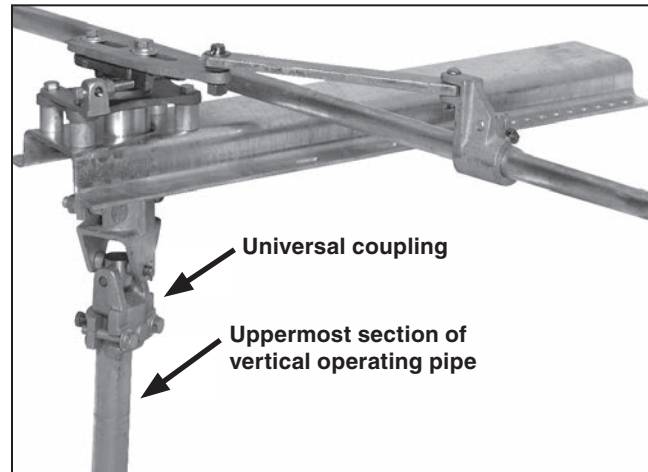

Figure 16. Install the uppermost section of the vertical operating pipe.
STEP 11. Insert the uppermost section of vertical operating pipe into the universal coupling attached to the underside of the outboard bearing assembly. (For triangular-upright and tiered-upright switch mounting configurations, this is the lowest outboard bearing assembly.) See Figure 16. Back the piercing set screw out of the body of the pipe coupling clamp before tightening the clamp bolts.